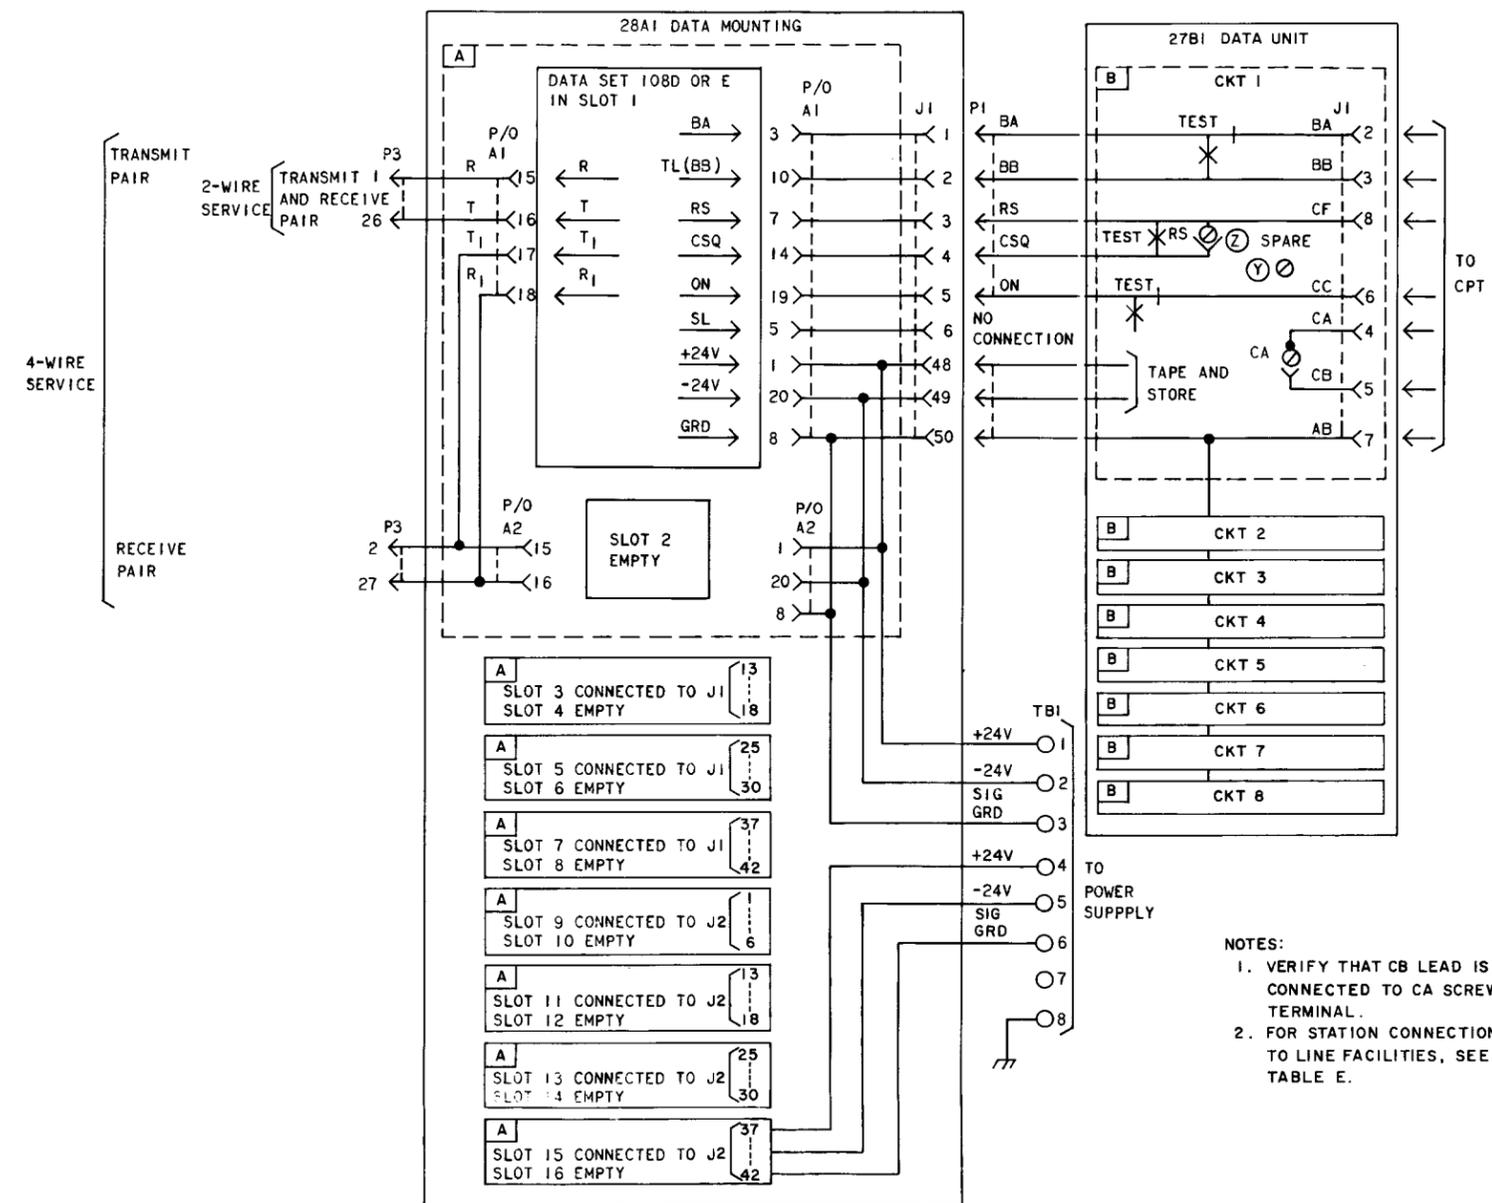

Fig. 3—Data Set 108D- or E-Type Multiple Arrangement Interconnection Block Diagram
4.01 The interconnection arrangement for the typical data set 108D or E multiple arrangement is shown in Fig. 3.